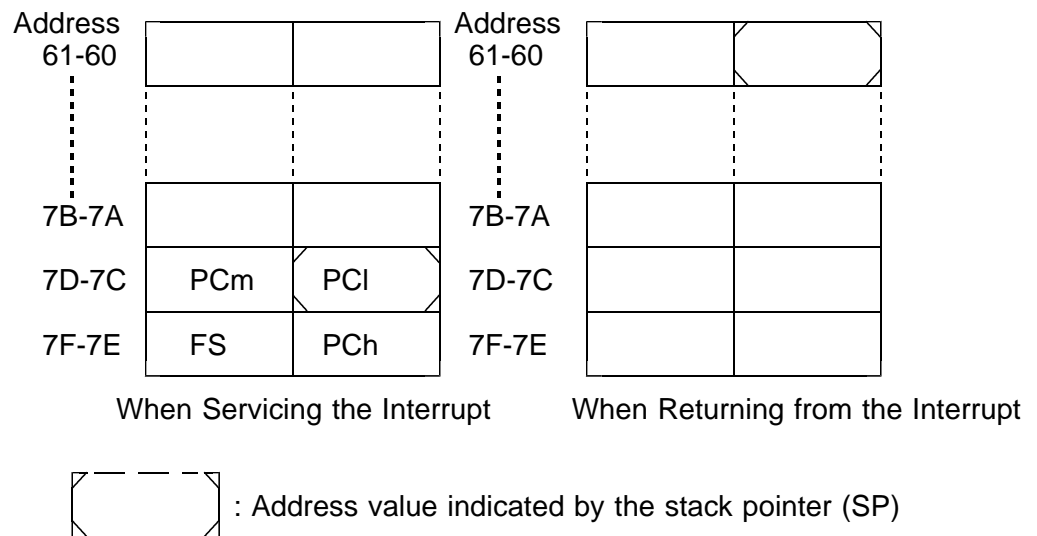

Fig. 4.4.1 Stack Pointer Operation
When receiving an interrupt or returning from it, the stack level changes by how much the program counter (PC) and flag status (FS) are pushed or popped. In the case of a normal interrupt, the 4-word stack area RAM is required because the PC and FS are pushed. Therefore, the value of the stack pointer (SP) is decremented by 4 upon receiving the interrupt and incremented by 4 upon returning from the interrupt (See Fig. 4.4.1). A return from interrupt is done by executing the RETI instruction. The RETI instruction restores the original values of the FS and PC which have been pushed in the stack area RAM during the interrupt reception cycle. The SP is incremented after reading out the values in the RAM indicated by SP.